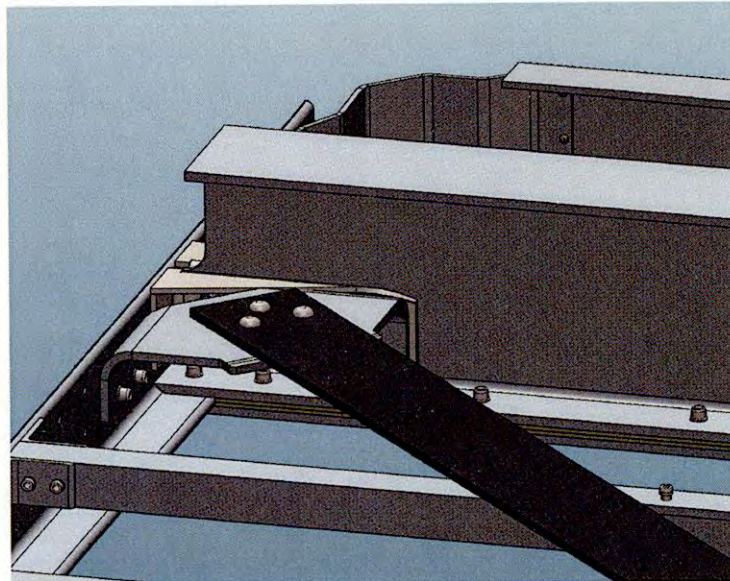
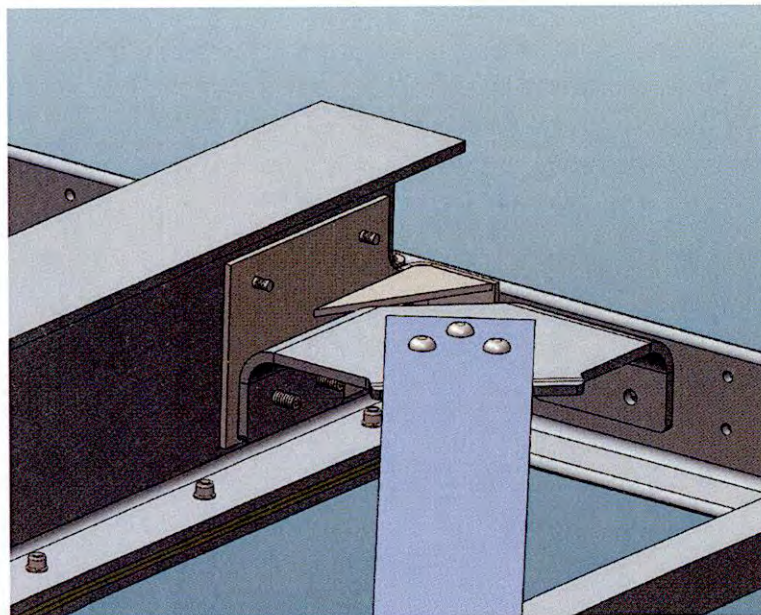

Figure 3
Figure 4
1. Examine the style of beam end brackets on the trailer. If they are the old style as shown in Figure 3 below, completely remove all of them (four total). If they are of the new style as shown in Figure 4 below, completely remove the rear two brackets, but for the front brackets remove only the fasteners connecting them to the beam; do not remove the fasteners holding them to the trailer lower side rail.